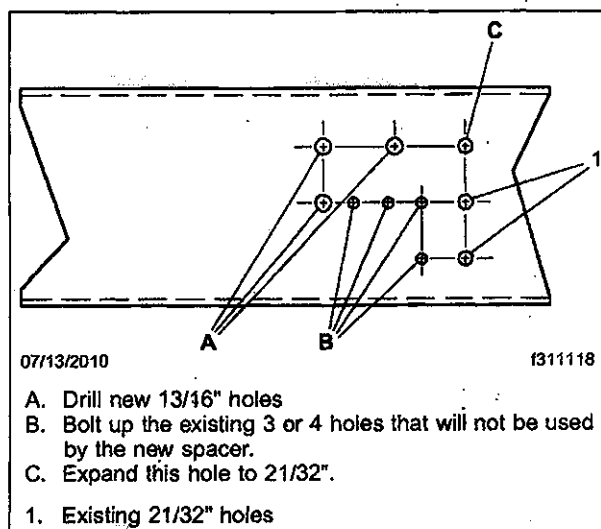

Fig. 4, Drilling Diagram
13. Expand the top rearmost spacer mounting hole from 17/32-inch to 21/32-inch diameter. See Fig. 4.
15. Using the new spacer as a guide, mark the frame rail for drilling three additional 13/16-inch diameter holes. See Fig. 4.